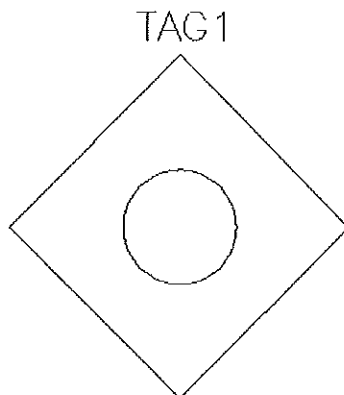

Figure 13-37 The TAG1 attribute inserted into the symbol
15. Enter **7.5,31.65** at the Command prompt and press ENTER; the TAG1 attribute for the symbol is inserted above the symbol, as shown in Figure 13-37.